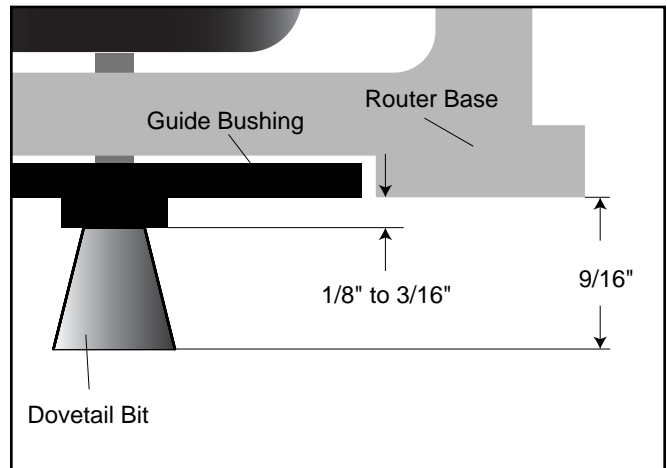

Figure 4. Depth of router bit cut is $\frac{5}{8}$ " below router base.
2. It is designed to be used with $\frac{1}{4}$ " shank, $\frac{1}{2}$ ", 14° dovetail bits only. The bit should protrude exactly $\frac{9}{16}$ " below the router base. See Figure 4.